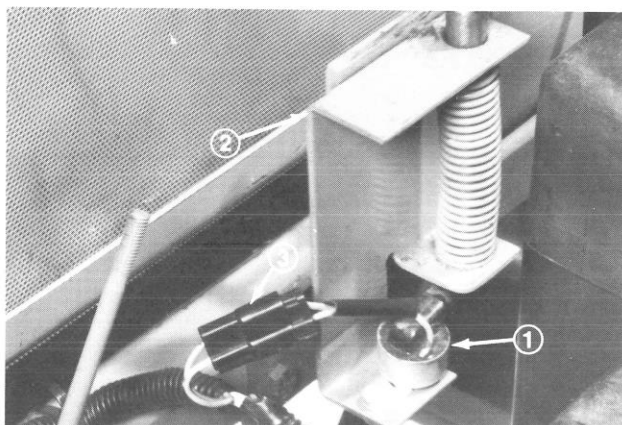

Figure 6
2. Mount seat support bracket to frame (Fig. 6).
3. Remove seat switch from shipping bracket (Fig. 6) and mount to seat support bracket using same fasteners (Fig. 6). Connect switch connector to main wire harness connector (Fig. 6).
3. Remove seat switch from shipping bracket and mount to seat support bracket using same fasteners (Fig. 6).